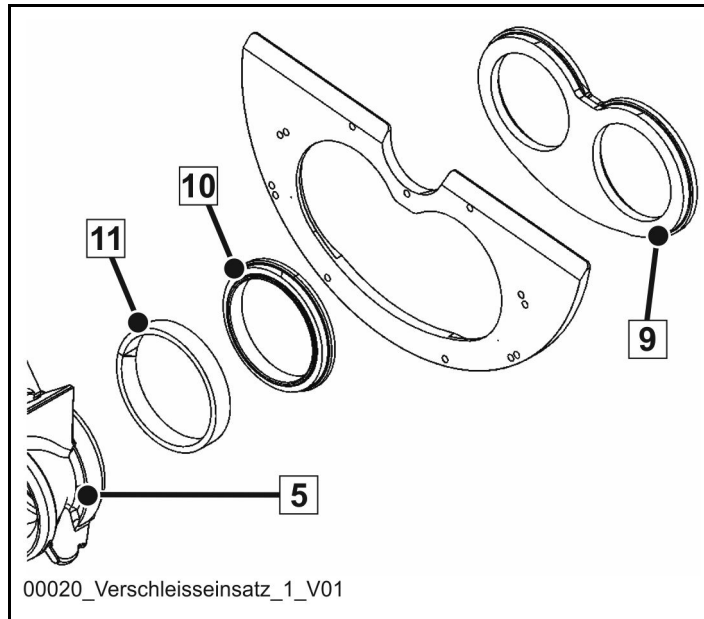
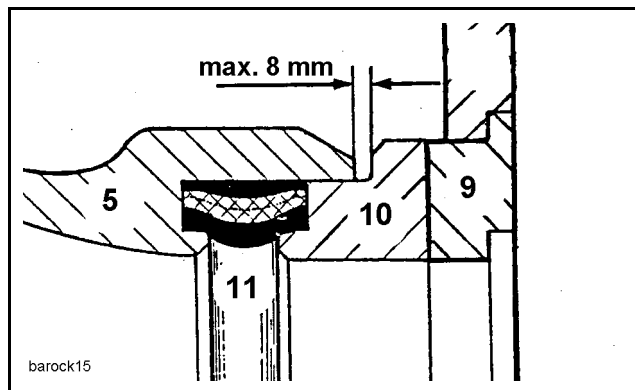

Fig. 337
Fig. 338
- Check the distance between the cutting ring (10) and the swivel head (rock) (5) (Fig. 337) and (Fig. 338) after each rotation. If it is more than 8 mm, the cutting ring is no longer guided securely in the rock and must be replaced.
- When replacing the cutting ring, check the condition of the wearing insert (9) and pressure spring (11) (Fig. 338).